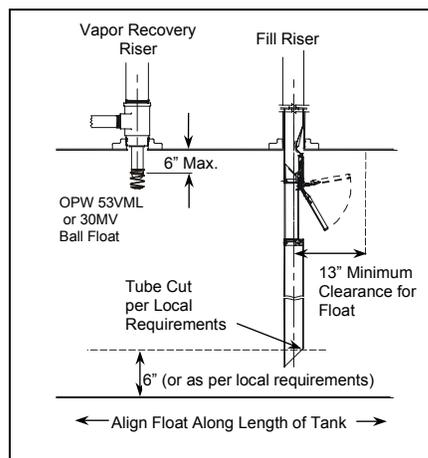

Figure 16
requirements. Determine dimension (B) from the measurements taken in Step 1, Figure 1 (Top of the FSA-400 below the drain valve outlet in the spill container to the bottom of the tank). Saw off the excess tube at a 45-degree angle and file off any sharp burrs (Refer to Figure 16). Optional: Install the OPW/POMECA Tank Bottom Protector on the lower tube (Refer to Installation instructions supplied with the 6110 Tank Bottom Protector).